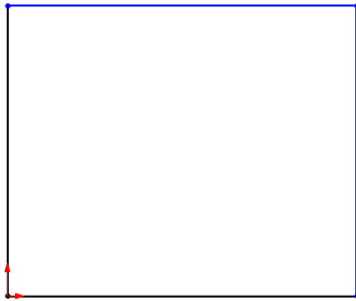

Figure 2-26 The outer loop of the sketch
- d. Draw the sketch using the sketching tools, refer to Figures 2-26 through 2-31.
4. Exit the **Corner Rectangle** tool by right-clicking and choosing the **Select** option from the shortcut menu, displayed. Figure 2-26 shows the outer loop of the sketch drawn using the **Corner Rectangle** tool.